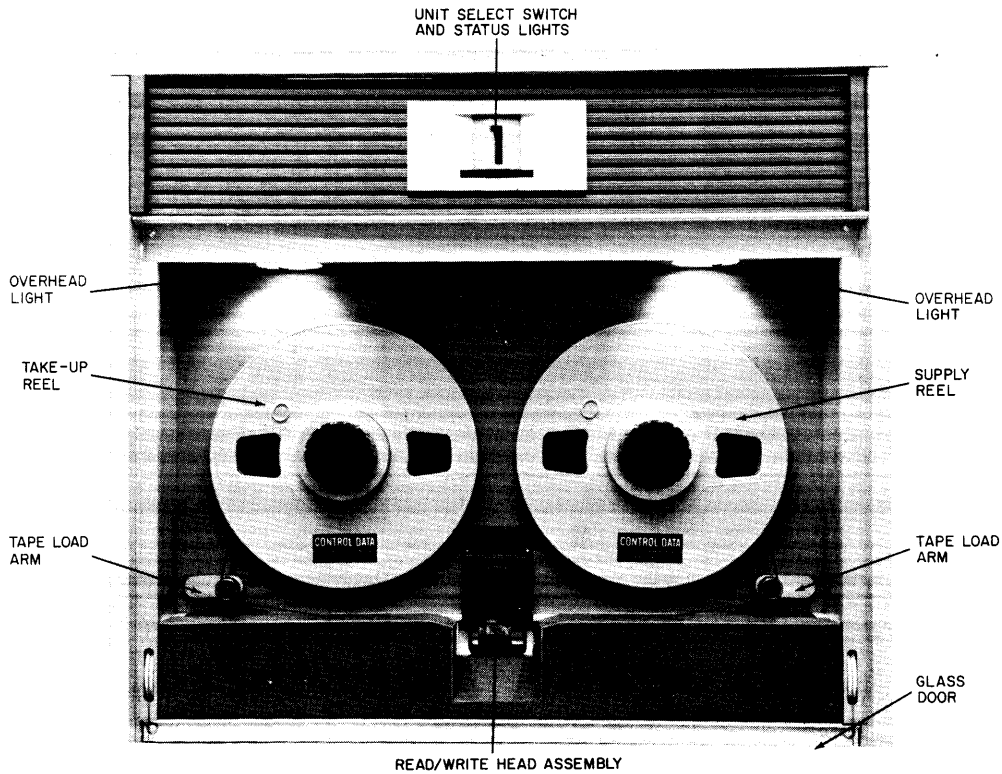

Figure 6. Tape Load and Unload Mechanics
- 1) Slide front door down to lowest position (Figure 6).